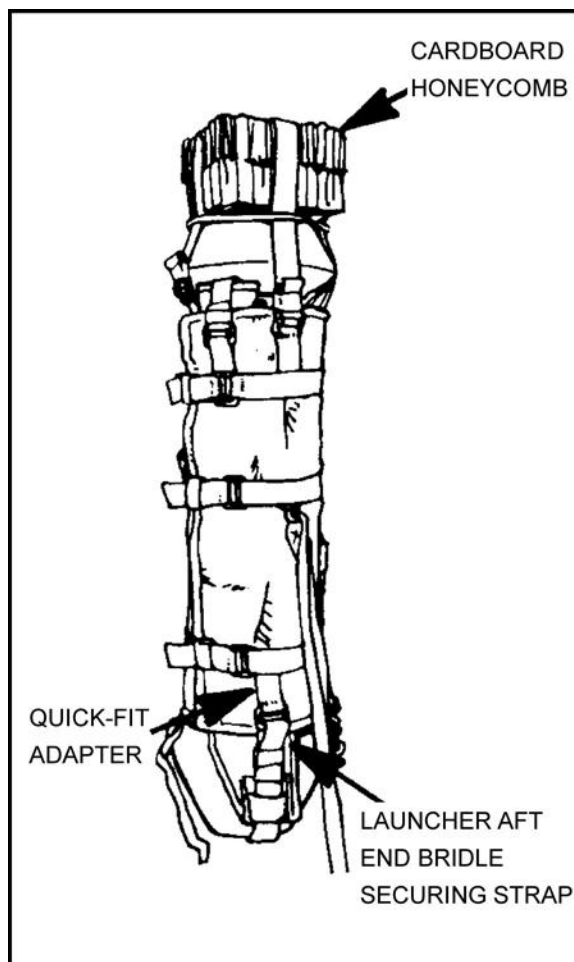

Figure 12-34. Honeycomb squares secured.
(1) Route the missile launcher aft end bridle securing strap through its quick-fit adapter and tighten, using a quick-release fold.
(2) Secure two 9-inch-square blocks of cardboard honeycomb energy dissipater across the forward shock absorber of the missile, using the launcher forward end securing straps. Tighten the straps and form an X over the center of the honeycomb. Secure the straps using a quick-release fold (Figure 12-34). Tie one turn of 1/4-inch cotton webbing around the X formed by the launcher forward end, securing straps in a surgeon's knot and locking knot. Tie another one turn of 1/4-inch cotton webbing around the launcher forward end, securing straps below the cardboard honeycomb energy dissipater in a surgeon's knot and locking knot. If the missile forward end shock absorber is missing from the Dragon missile training round, it should be replaced with a 9- by 9-inch square of cardboard honeycomb.